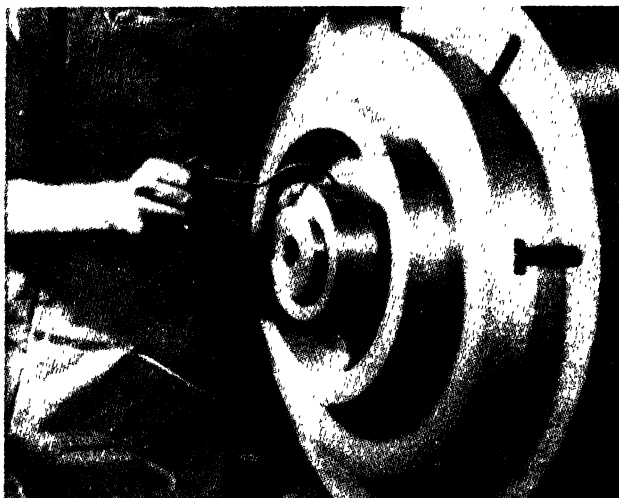

Fig. 3-15. A toolmaker's outside caliper being used. (*The Brown & Sharpe Manufacturing Company*)
*Measuring with a Caliper* (Fig. 3-15). Accurate use of calipers requires considerable practice and the development of a sense of